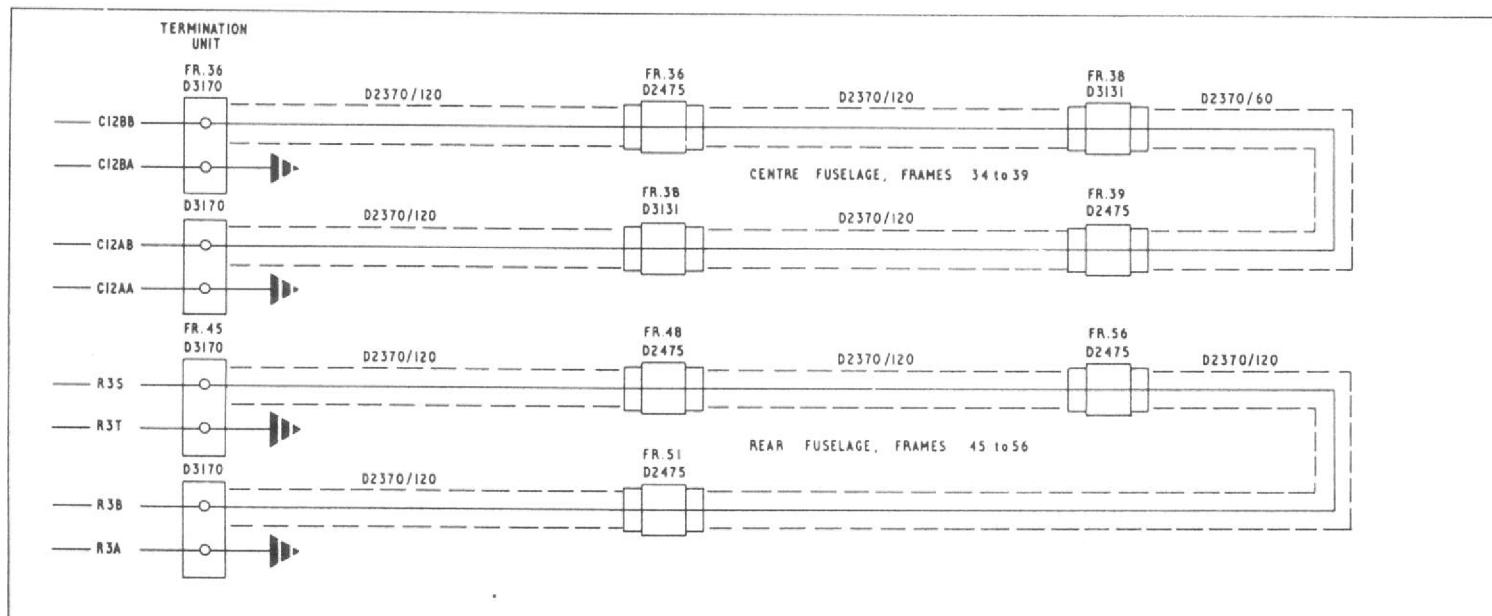

Fig.3 Details of Firewire sensing elements installation (Post Mod.960)
20. Figure 3 gives the details and location of the sensing elements, coupling units and termination fittings, and is provided to assist when using Graviner Test Set T1580-02.